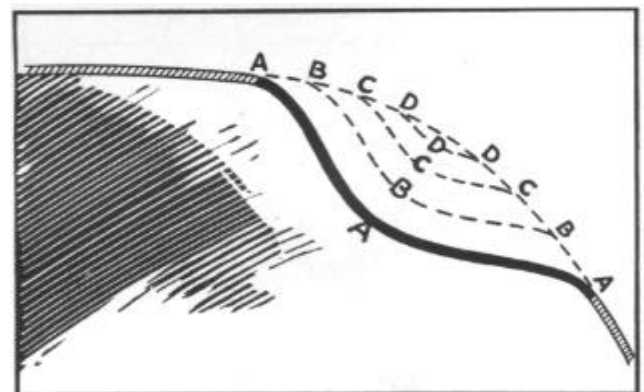

FIGURE 52
Figure 52 shows a case where the metal was made non-elastic in manufacture, and pressure at valley (A) must be constantly maintained with a body jack while simultaneous pressure is applied against both ridges and slopes of the buckle.